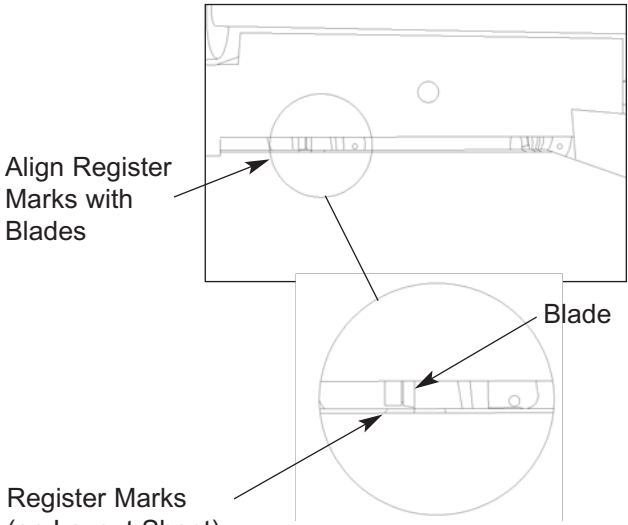

Figure 8
3. Align register marks on layout sheets with the cutter blade edges (Figure 8).